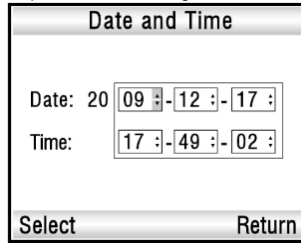

Fig.4-2
2) Press the Down button to select the "Date and Time" item, and then press the Menu button to enter the time setup screen, refer to Fig.4-2.